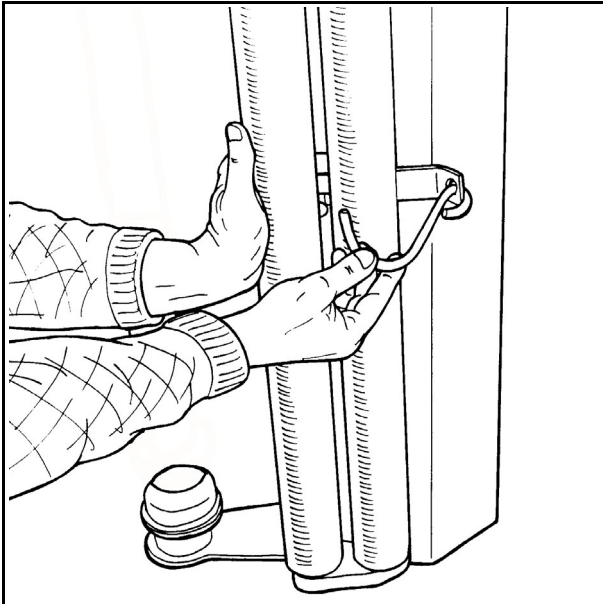

Fig. 4-1
Before use, the tower must be lifted up and fastened with 5 pcs. 16mm bolts. (Figure 4-1 shows the machine at delivery).
- 4.1 When the plastic roll shall be mounted, you have to hold the prestretcher-rollers aside, Hold the rollers aside and put on the holding hook. (See fig. 4-1).